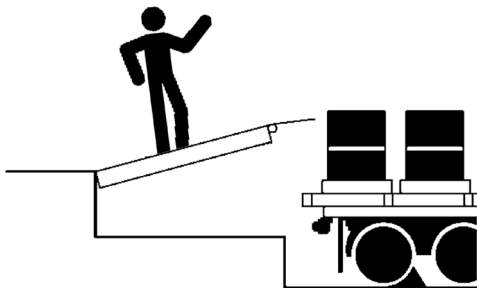

Figure 13
6. Walk out onto the platform. The platform will lower until the lip rests on the transport vehicle (Figure 13).
- b. Lower platform by slowly walking out onto the platform, allowing time for the lip to fully fold and clear the transport vehicle. Continue walking out on platform until platform lowers to the cross-traffic position (lip engages in the lip keepers) (Figure 13).